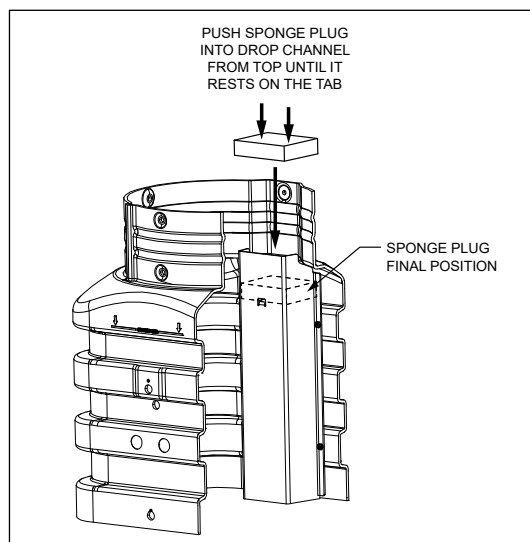

Figure 4 Insert Sponge Plug
5. Slide the sponge plug into the drop channel from the top and push the plug down until it rests on the tab in the drop channel (Figure 4). The sponge plug protects against moisture from running down the inside of the drop channel.